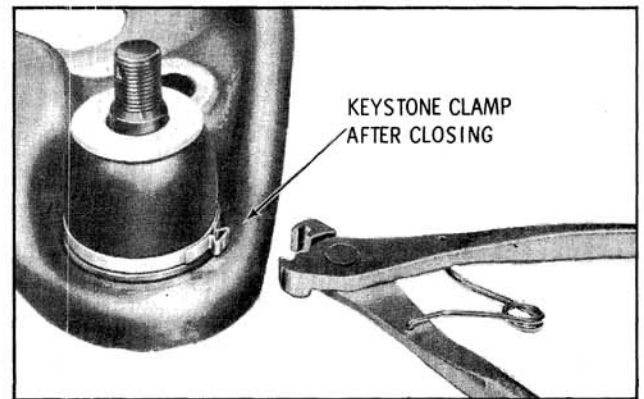

Fig. 9-26 Keystone Clamp Installation
10. For installation of Saginaw type seal, place seal on ball joint and install keystone clamp as shown in Fig. 9-26.